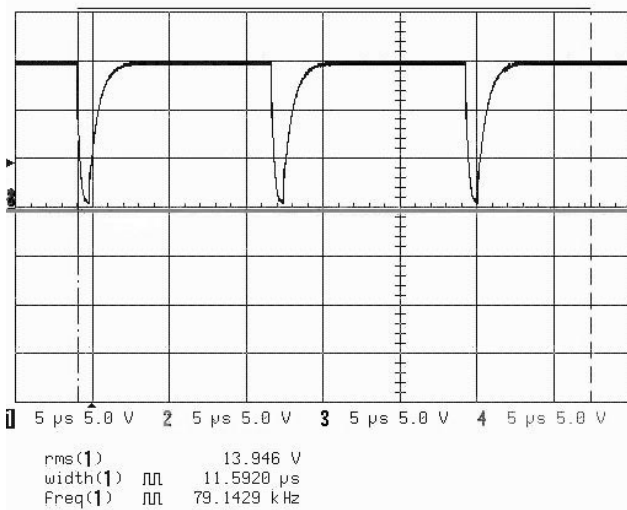

Figure 4.13 PFC Gate Switching at 4VDC
- Using an oscilloscope check PFC gate switching at TP-5 with respect to TP-2, as shown in Figure 4.13.